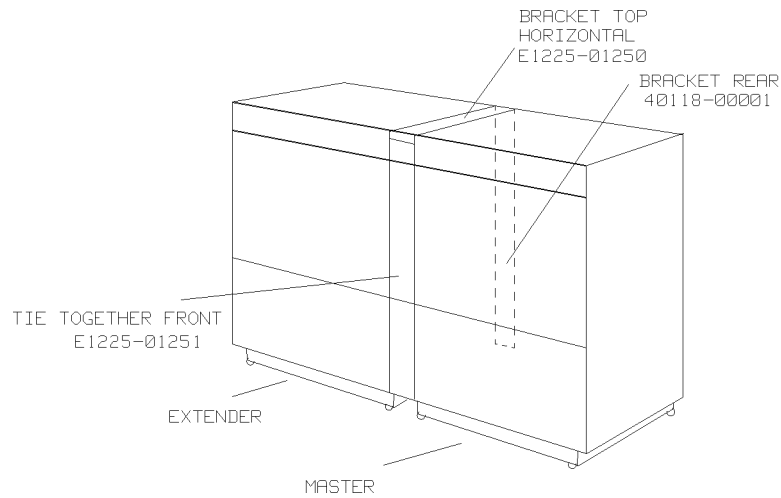

Figure 5-3. Clamping Brackets - Master + 1 Extender.
9. Refer to Figure 5-3, place the Extender(s) next to Master Standardframe and clamp them together (front, top and back) using the clamps provided: